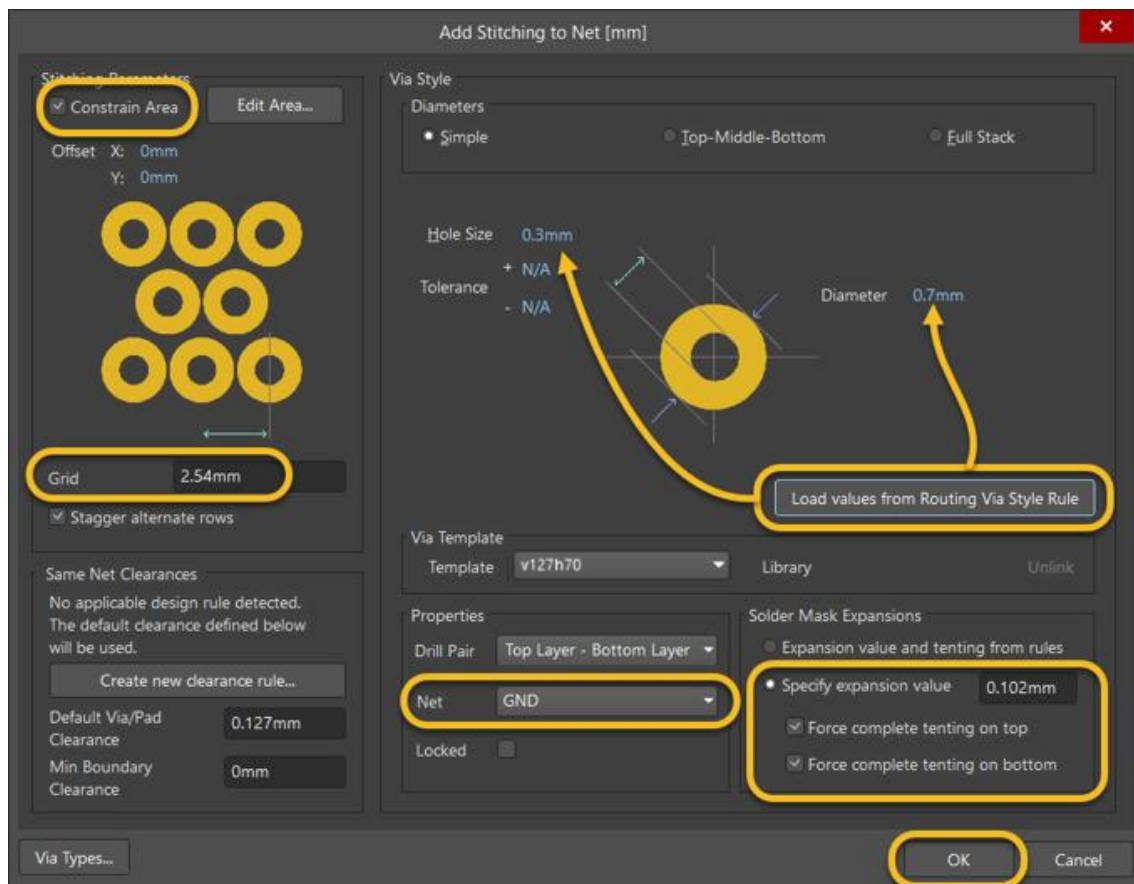

Figure 7. Via hole and tenting values
- Select the **Constrain Area** checkbox in the top left corner of the Stitching window, Figure 7. This will change focus to the PCB with a crosshair on your cursor.
27. Once the area has been defined, hit the **ESC** or **right click** key to return to the *Add Stitching to Net* dialog. Use Figure 7 as a reference for the next steps:
- Check the **Force complete tenting on top** and **bottom** checkboxes under the *Solder Mask Expansions* area to have the added stitching vias covered over with Solder Mask, as shown in Figure 7.